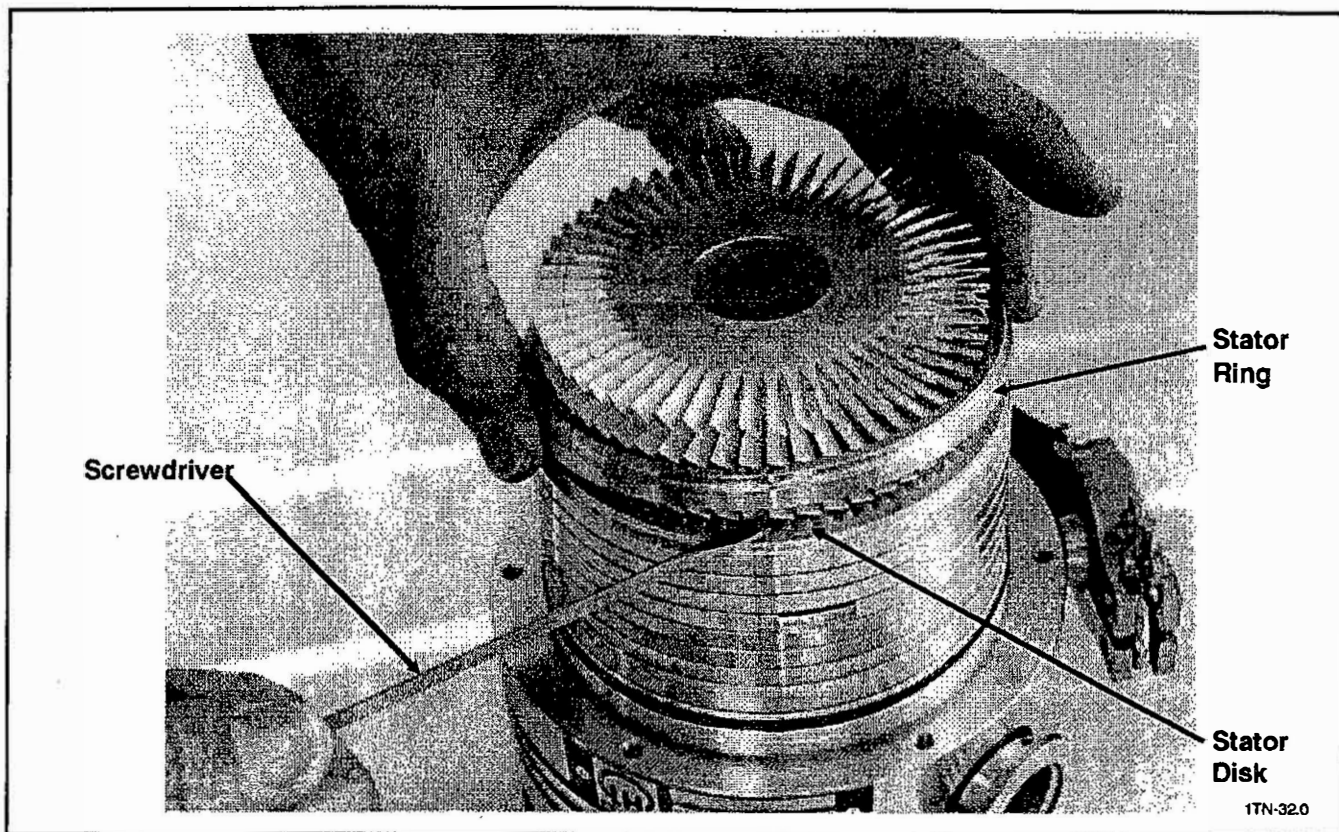

Figure 4-9. Using a Screwdriver to Prevent the Stator-Disk Halves from Overlapping as You Install the Stator Ring
4. Using your fingers, compress the stator package and alternately place stator disk halves and stator rings one above the other by repeating steps 2 and 3 until the entire stator package is reassembled onto the turbopump. You can use a small screwdriver as shown in Figure 4-9 to ensure that the stator discs don't overlap as you lower the stator ring. After you install the stator ring, check that the gap between it and the next lower stator ring is the same all around the circumference of the ring. If the gap is bigger on one side, it means that the tips of the stator discs are overlapping. As you install new stator disks, hold the previously installed ring in place so that it doesn't shift.